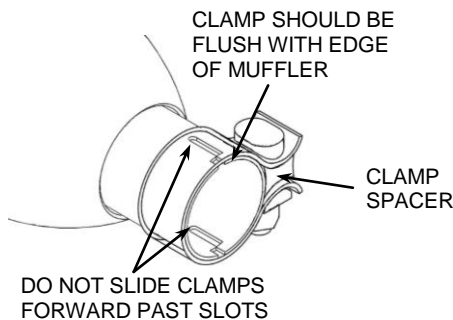

FIGURE 9
24. Adjust the mufflers fore and aft to align the front of the mufflers with the rear of the heatshields. Make sure there is a small gap between the front of the mufflers and the heatshields. Rotate the mufflers so they are level with the ground and then tighten the muffler mounting bolts and the clamps. (NOTE: The clamps should be flush with the end of the muffler inlet when tightened. If the clamps are slid past the slots on the muffler inlet the clamps will not tighten properly). See **FIGURE 9**.